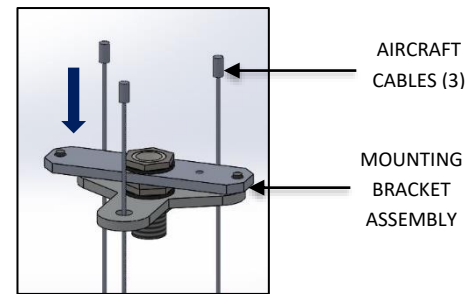

FIG. 8 – AIRCRAFT CABLE
2. Feed the AIRCRAFT CABLES (3) through the holes of MOUNTING BRACKET ASSEMBLY as shown in FIG. 8.